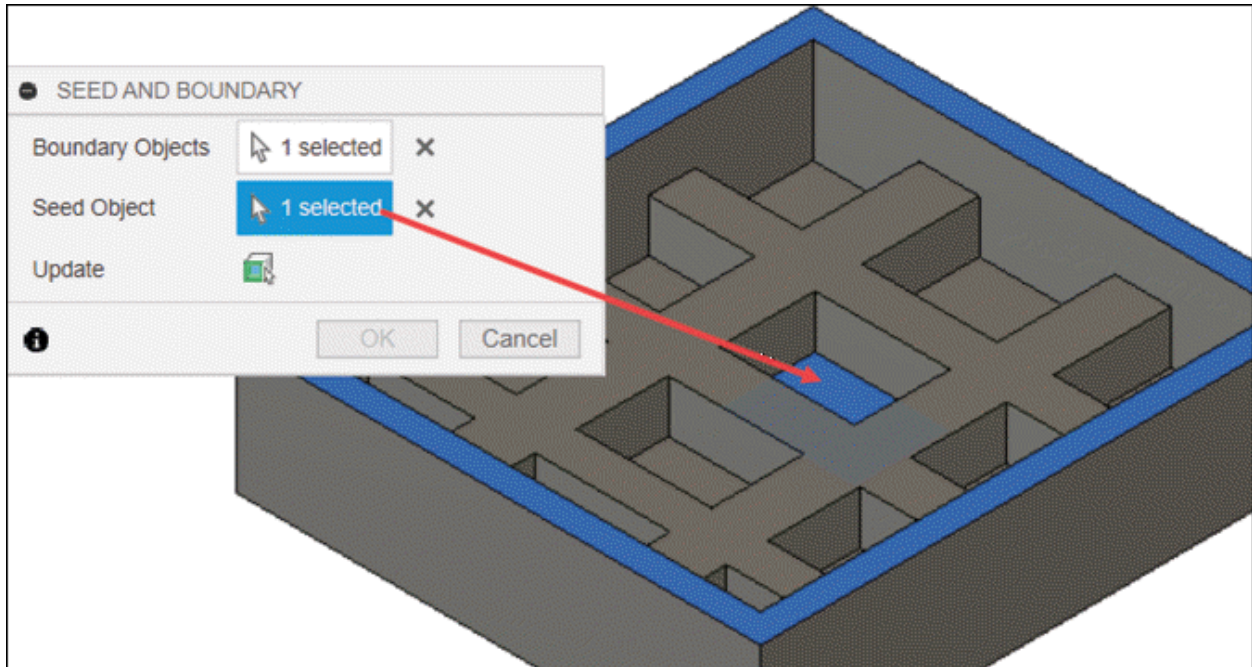

Figure-23. Face selected for seed object
- Click on the **Select** button for **Seed Object** in dialog box and then select the face from model within the boundary to be used as reference for selecting nearby faces. The **Update** button will be displayed in the dialog box; refer to Figure-23.